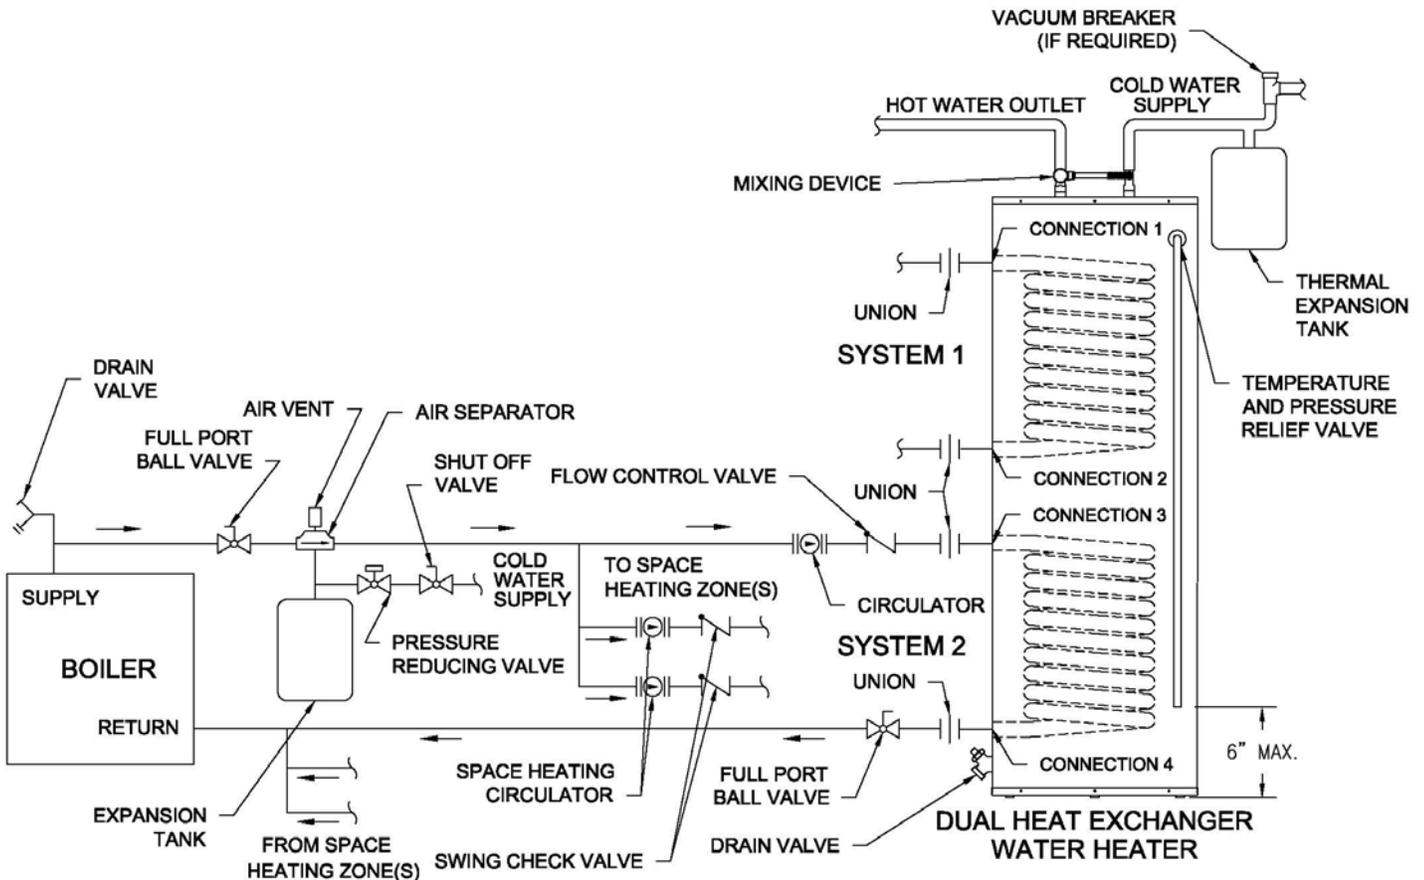

Figure 8 – Boiler Piping in Closed-loop Installation for Single Heat Exchanger
1. For a boiler heating system that utilizes a single heat exchanger, refer to Figure 8. Due to each system being independent of each other, the upper system's connection to heat exchanger 1 is not shown. The indirect water heater connection designated as CONNECTION 3 should be piped to the boiler supply piping. Mount the circulator making sure the flow arrow points toward the water heater. The use of shut-off valves and unions are recommended for future service convenience. The use of an air separator and vent is required to eliminate air in the system. Pipe and fittings between the boiler and indirect-fired water heater must be $\frac{3}{4}$ " diameter or larger. The indirect water heater connection designated as CONNECTION 4 according to Figure 8 should be piped to the boiler return piping.